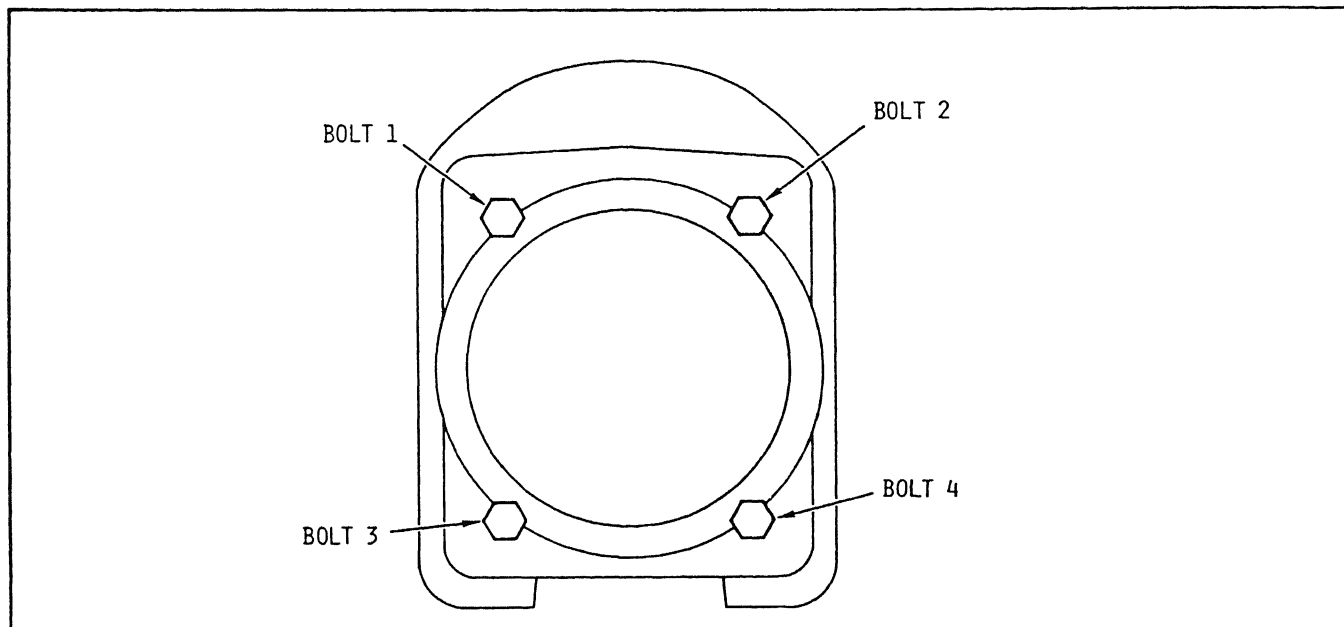

Figure 5-58. Cylinder Head Torquing Sequence
- (6) Using torque wrench and angle-of-turn indicator, tighten head bolts in sequence as shown in figure 5-58 and in accordance with Table F-1 through first stage 45° angle.
- (7) Turn crankshaft through 360° in direction of engine rotation.
- (9) Install cylinder head, four head bolts and washers.
- (10) Tighten head bolts in sequence as shown in figure 5-58 and in accordance with Table F-1.